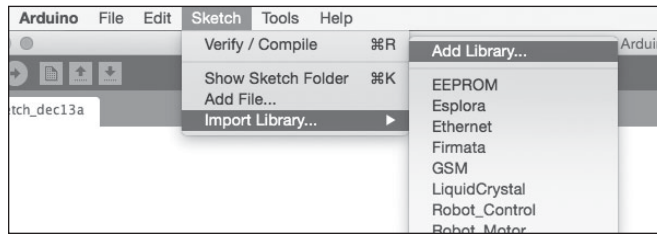

Figure 8-17: Importing the library
2. Open the Arduino IDE and then select **Import Library** ▶ **Add Library** from the Sketch menu, as shown in Figure 8-17.